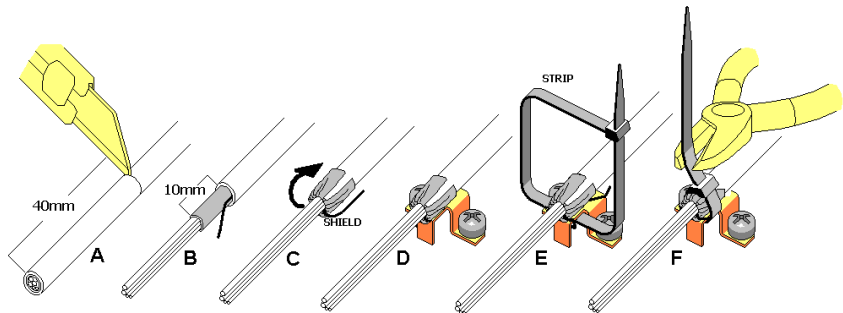

Fig. 8
- 1) prepare the wire (Fig. 8 A / B).
- 3) Fold the shield backwards and lean it on the tie holder (Fig. 8 C / D).
- 4) Block with a strip the wire to the tie holder (Fig. 8 E / F).